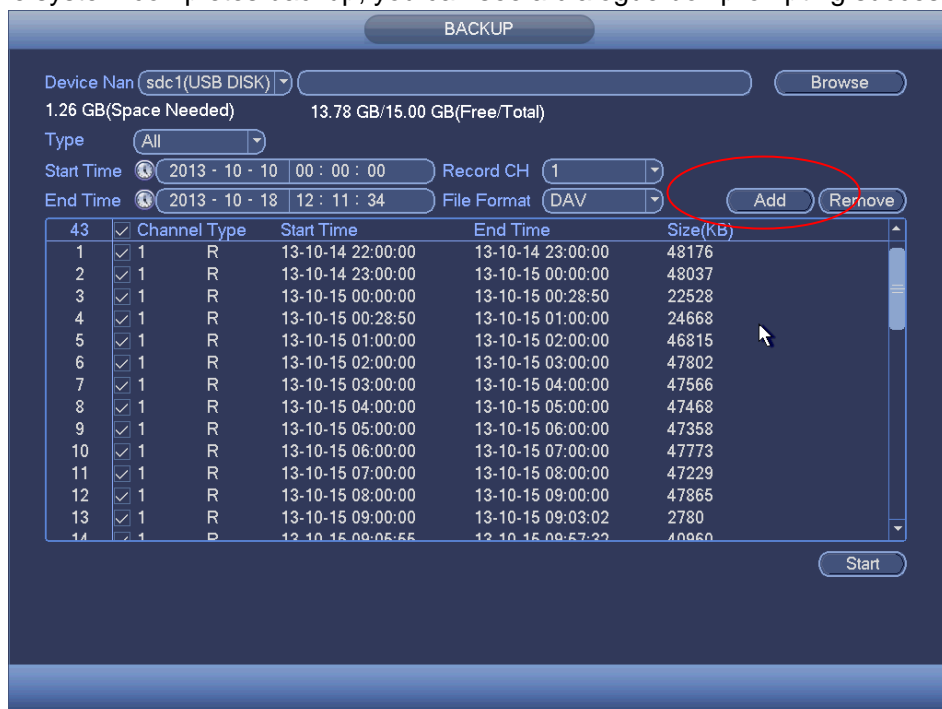

Figure 4-67
- d) Click add button, system begins search. All matched files are listed below. System automatically calculates the capacity needed and remained. See Figure 4-67.